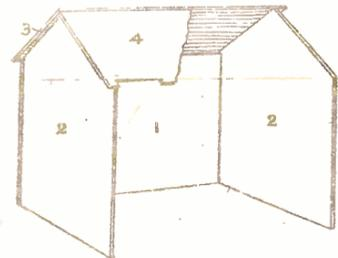

Fig. 1—Assembly of the main shell
To begin construction, cut the back (1), the ends (2), the back roof slope (3) and the front roof slope (4). These are then assembled as shown in Fig. 1, the roof slopes being butted and pinned as in the detail on the front of this design sheet.